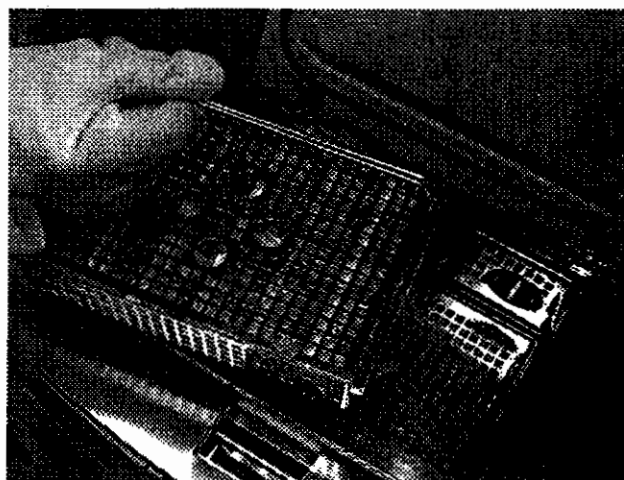

Figure 4-2
NOTE: The instrument can be loaded with either up to 150 cassettes, or up to 300 cassettes per load. To run the instrument for up to 150 cassettes (Figure 4-2), two **displacement blocks** must be placed inside the bottom basket ①. Reagent volumes in stations 1 through 14 should be at least 2.7 L. **When running up to 300 cassettes, the displacement blocks are not used and the reagent volumes must be at least 3.7 L.**